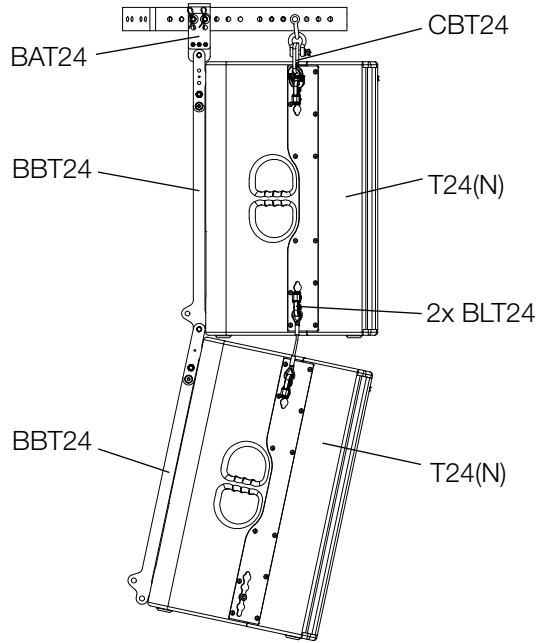

Figure 4.8.2 - Standard variant
The standard variant has established itself in which two T24(N) loudspeakers are used with one CBT24 cradle bar for flying, two BBT24 brackets, one BAT24 adapter and two BLT24 Boxlink connector cables. (See figure 4.8.2)